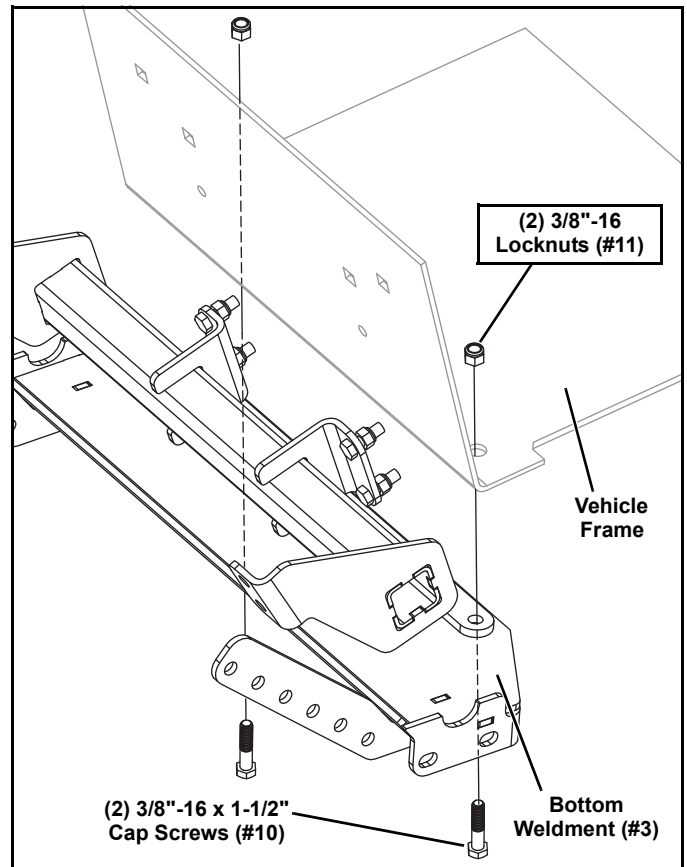

Figure 4
4. Align the two bottom holes in the Bottom Weldment (#3) with the two holes in the bottom of the vehicle frame (that the hardware was removed from in step 1) (See Figure 4).
5. Insert (2) 3/8"-16 x 1-1/2" Cap Screws (#10) into the Bottom Weldment (#3) and into the vehicle frame. Secure with (2) 3/8"-16 Locknuts (#11) (See Figure 4).